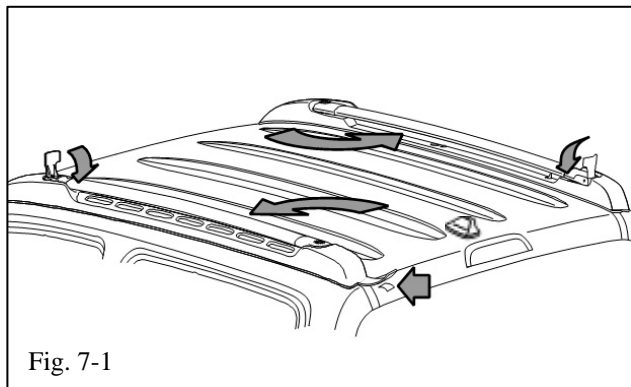

Fig. 7-1
(a) Align the stub on the rear of the pad with the roof ditch. Once aligned, remove the tape backing and press down firmly. Tuck the stub under the rear window lace (Fig. 7-1).
**STOP** (b) Reposition the crossbars into the base rails and close the levers. Ensure the latch is engaged by pulling up on the crossbar above the latch (Fig. 7-1).